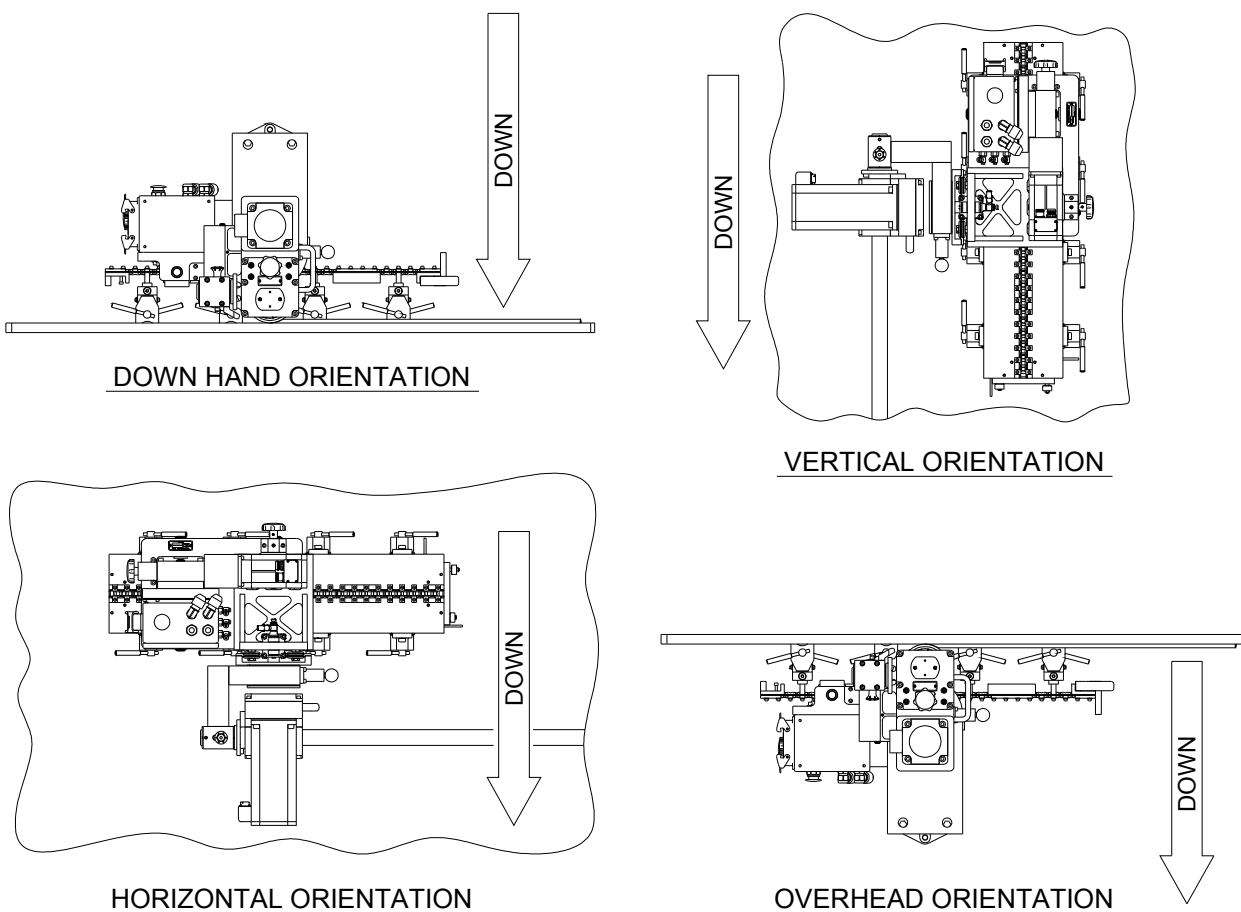
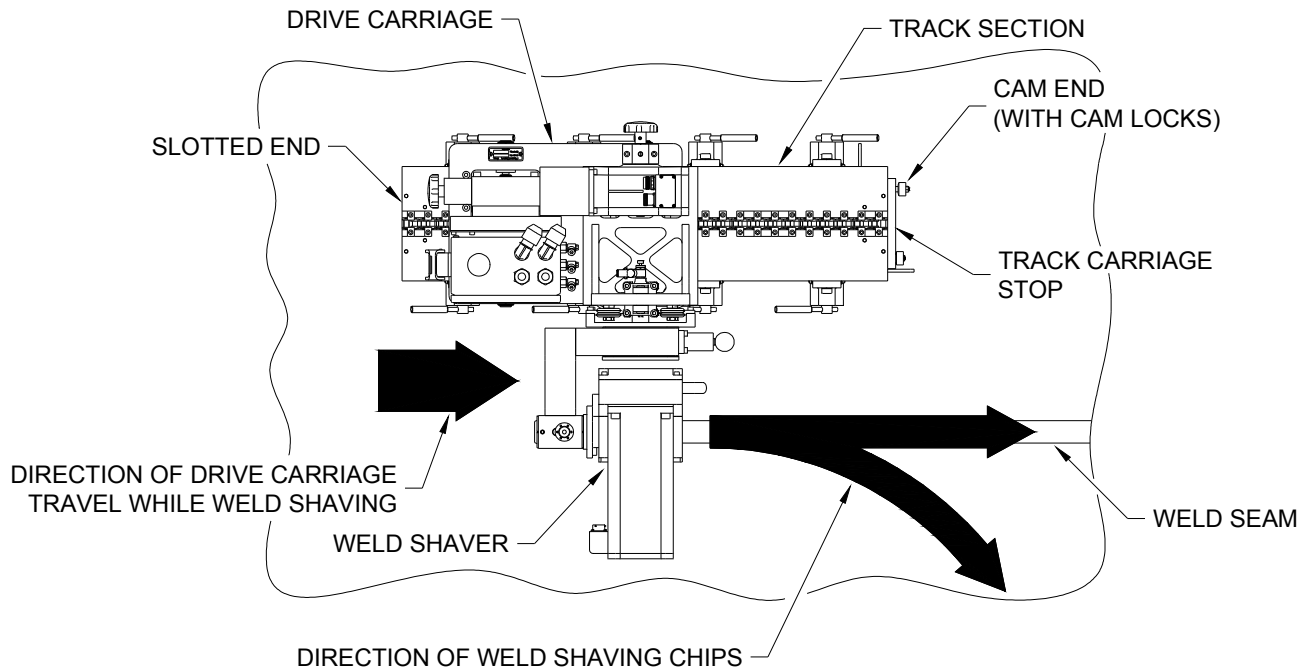

Figure 2: Track Orientations
Figure 3: Track Positioning
2. The operator observes the panel orientation (see Figure 2) and determines on which side of the weld to place the track. The track should always be placed so that the weld shaving chips are projected in a direction shown in Figure 3. Never allow the chips to fall across the track or back onto the Weld Shaver. Always place the track such that the Drive Carriage travels from the Slotted End to the Cam End of the track. In the Down Hand orientation the track may be positioned to either side of the weld seam. In the Horizontal orientation the track is always positioned above the weld so that the weld shaving chips fall away from the track. In the Vertical orientation the track must be positioned to the right of the weld because the weld removal process direction is always down. This insures that the weld shaving chips fall away from the Drive Carriage. In the Overhead orientation the Track can be positioned on either side of the weld seam.
10. The operator must install the Track Carriage Stop on the end of the last section of Track, and toggle the Cam Locks to secure it in place. The Track Carriage Stop is shown in Figure 3.